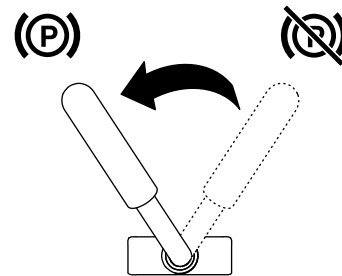

Figure 13
- To engage the parking brake, rotate the lever to left (Figure 13).